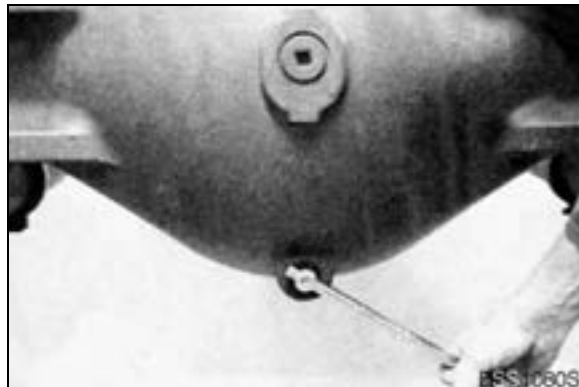
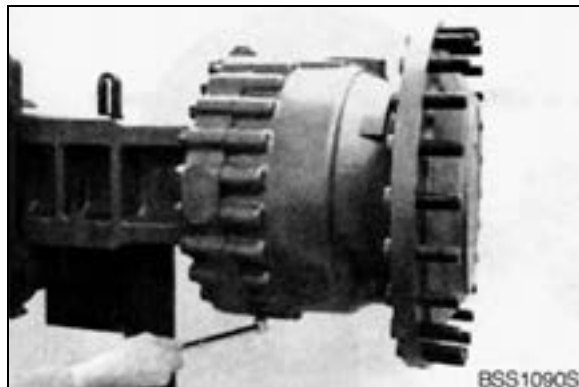

Figure 98
Figure 99
2. Remove plugs (3x, Figure 98, Figure 99) and drain oil from axle casing.